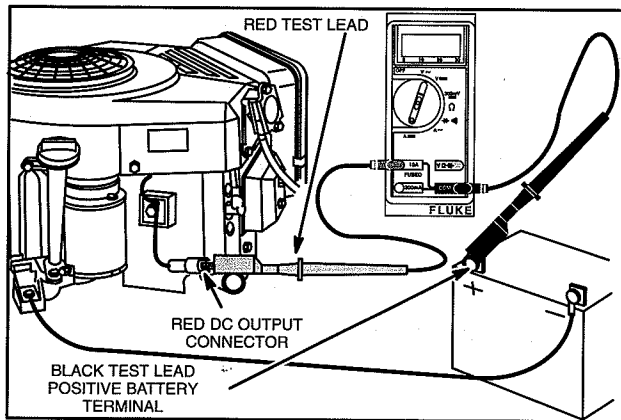

Fig. 21 – Testing Regulator-Rectifier
4. Attach RED test lead clip to red DC output terminal on regulator-rectifier, Fig. 21.